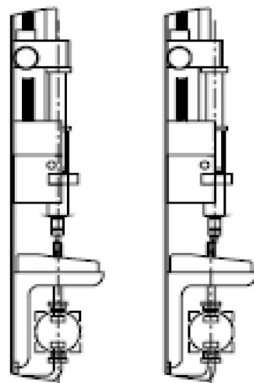

Figure 4 Syringe alignment
3. Slide the syringe in the guide until the luer meets the luer fitting of the syringe driver. The syringe luer should slide freely into and out of the luer fitting. If the syringe does not slide freely into and out of the luer connector, a misalignment problem is present. Refer to Figure 4. Misalignment means that the center of the syringe is aligned with the center of the luer fitting when the SDS is in proper alignment.